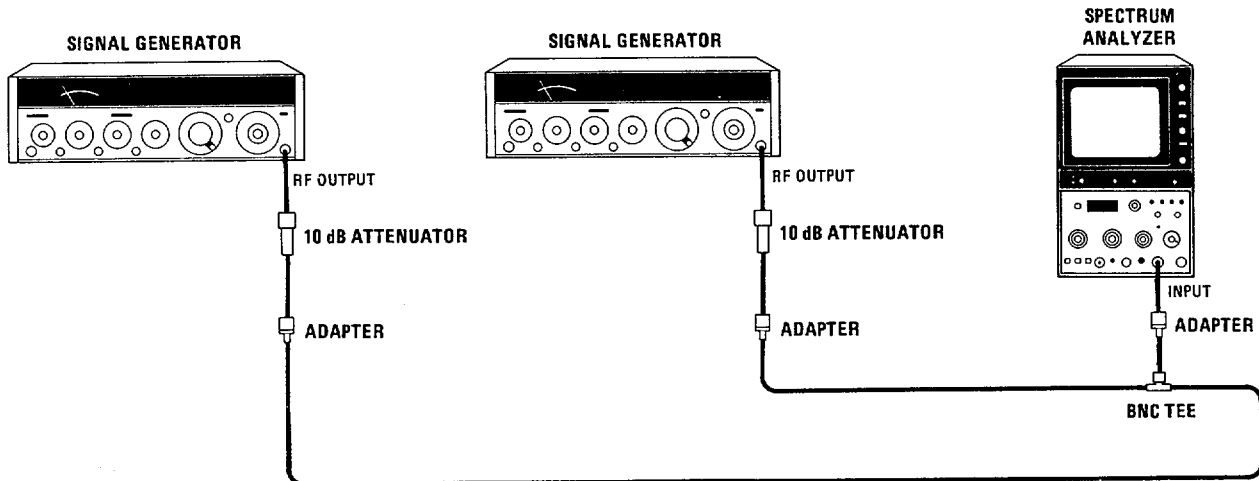

Figure 4-14. Intermodulation Distortion Test Setup
14. Connect equipment as shown in Figure 4-14.